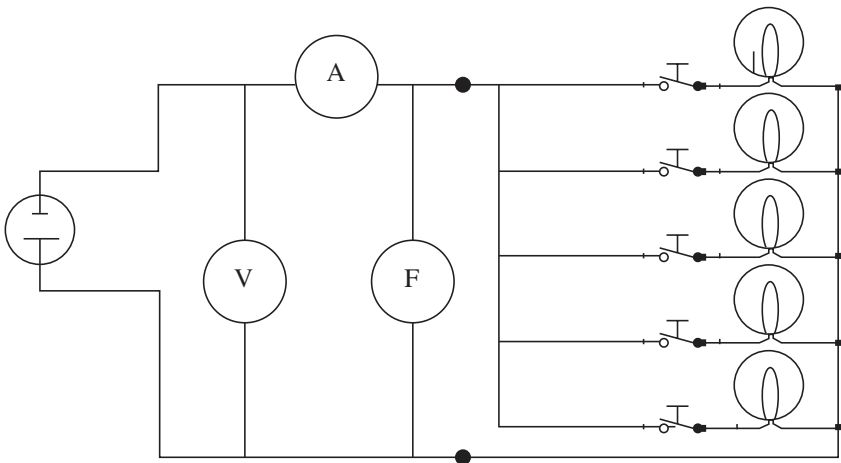

FIG. 3-9 A load center consists of purely resistive loads that, in this example, are in the form of incandescent lamps.
- **Load center:** If generator repairs are to be more than hit or miss, some means of progressively loading the generator must be available (Fig. 3-9). Electric room and water heaters can provide the bulk of the load, with incandescent lamps taking up the slack.